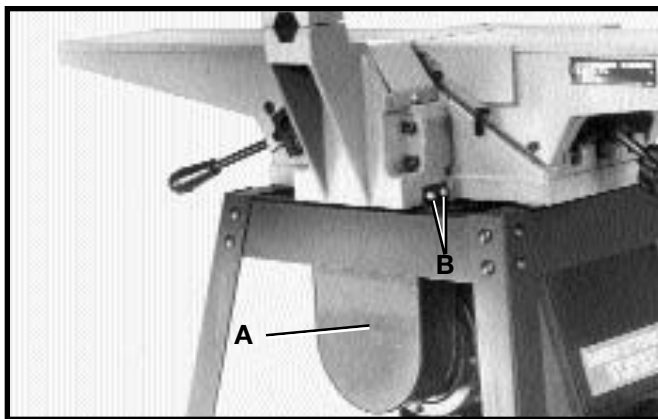

Fig. 19
1. Assemble the motor pulley and belt guard (A) Fig. 19, to the jointer base using the four 1/2" long screws, two of which are shown at (B), and four lockwashers.